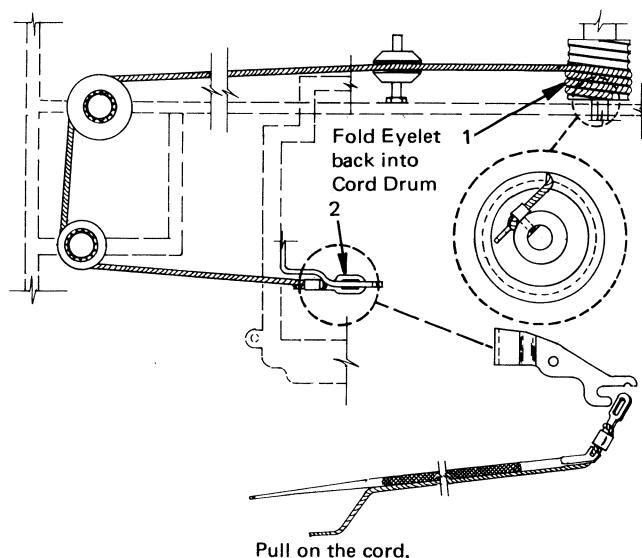

Figure 4-3. Carrier Return Cord Replacement
4. With the carrier still at the extreme right, feed the carrier return cord around the pulleys and then connect it to the cord drum (No. 1, Figure 4-3).
5. Connect the carrier return cord (No. 2, Figure 4-3), using the pusher end of a spring hook, as shown in Figure 4-3. Insert the spring hook underneath the carrier and hook the eyelet on its mounting bracket.